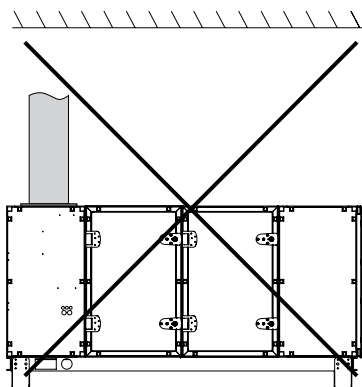

Fig.1
- When connecting directly to the unit, the hydraulic pipes and air ducts must be held using supports close to their point of connection on the unit (Fig. 1).